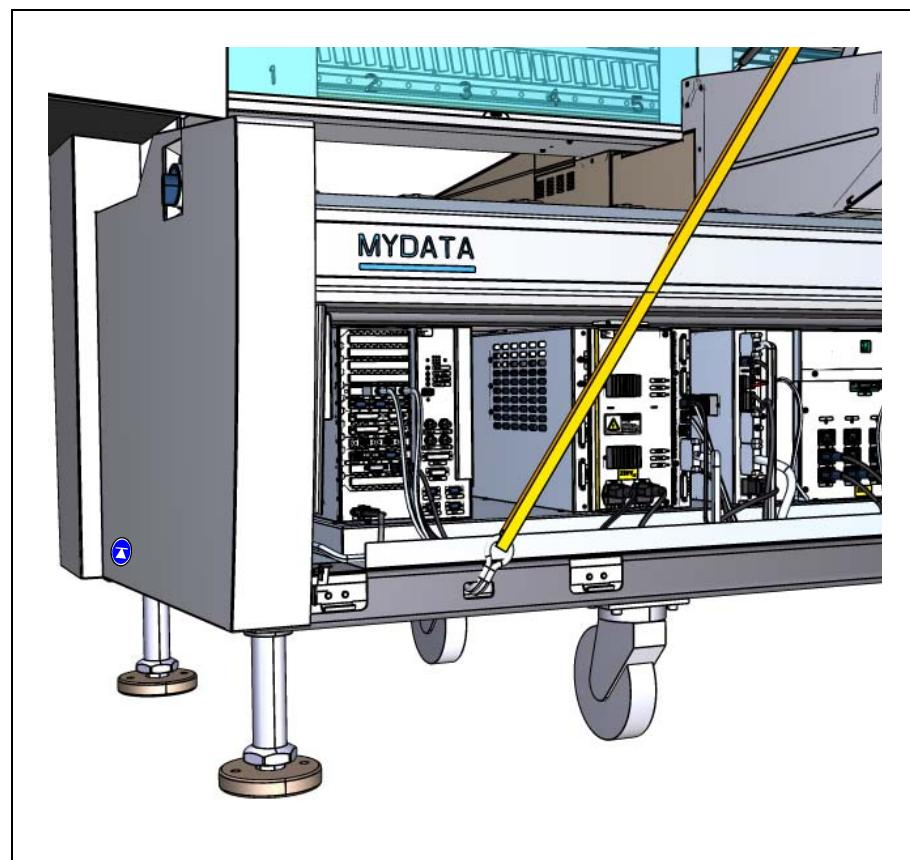

Figure 2-11. Slots in frame.
Figure 2-11 shows a MY100-14 machine, but the procedure is the same for all the machines in the MY100 series.
2. Fit four hoisting cables with hooks in the slots in the lower part of the machine frame. See Figure 2-11.